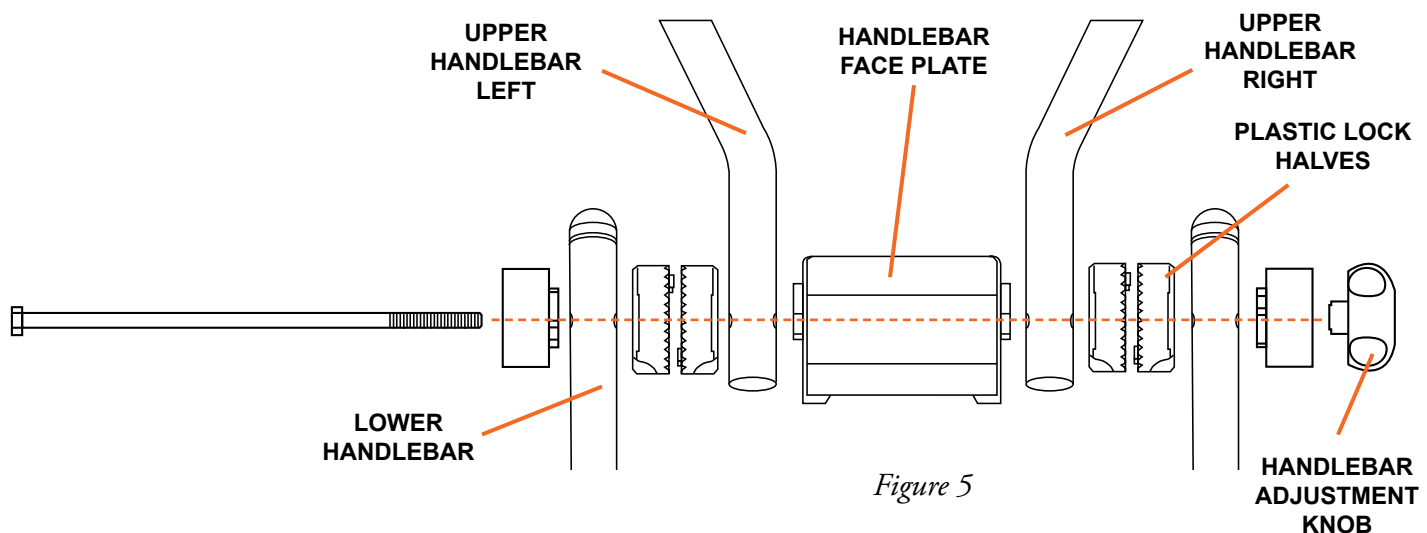

Figure 5
2. Position the handlebar components as shown in Figure 5.